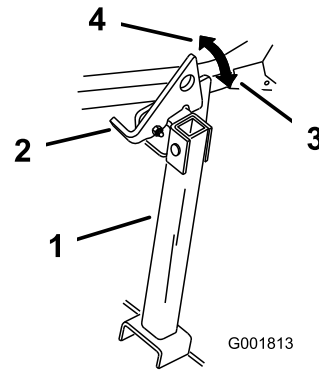

Figure 10
- Raise the latch to the unlocked position (Figure 10).